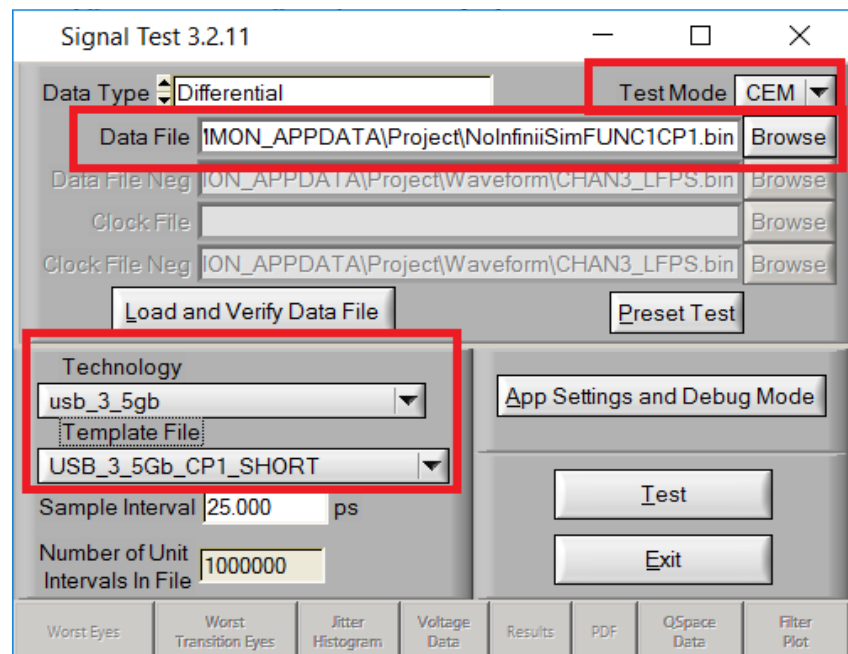

Figure 30 SigTest tool settings for measuring Short Channel RJ
- 11 Load the waveform file. Select the options for Technology and Template File as shown in **Figure 30**.